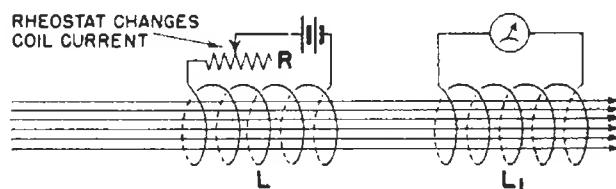

FIG. 14. This diagram shows how a change in current in one coil can induce a voltage in another coil.
3. Changing the Coil Current. When two coils are arranged as shown in Fig. 14, whereby the flux produced by current-carrying coil *L* passes through coil *L*₁, we can induce a voltage in coil *L*₁ simply by changing the current through coil *L*. By changing